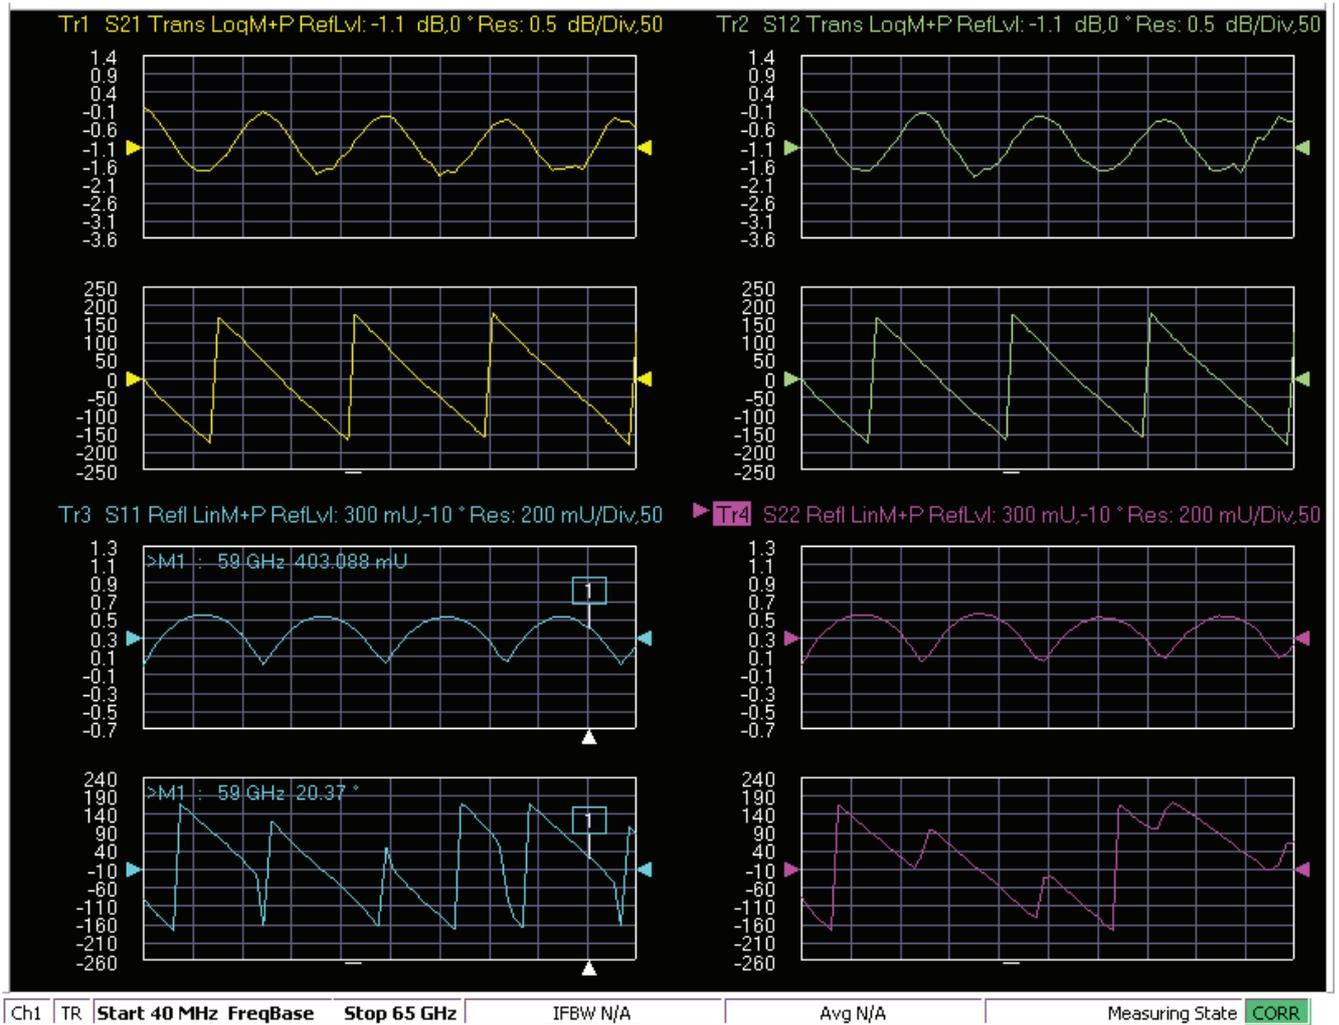

Figure 5-53. MS4640B Series VNA, Typical Mismatched Thru Data in Low Band
- When the test completes, the program returns to the main menu described Section 5-9 “Application Interface – Main Menu Tab” on page 5-27, and the display should look similar to Figure 5-53. This is a typical display immediately after measuring the Mismatched Thru in the Low Band. Please note this is for reference only and that the actual data on the VNA display may not be identical.